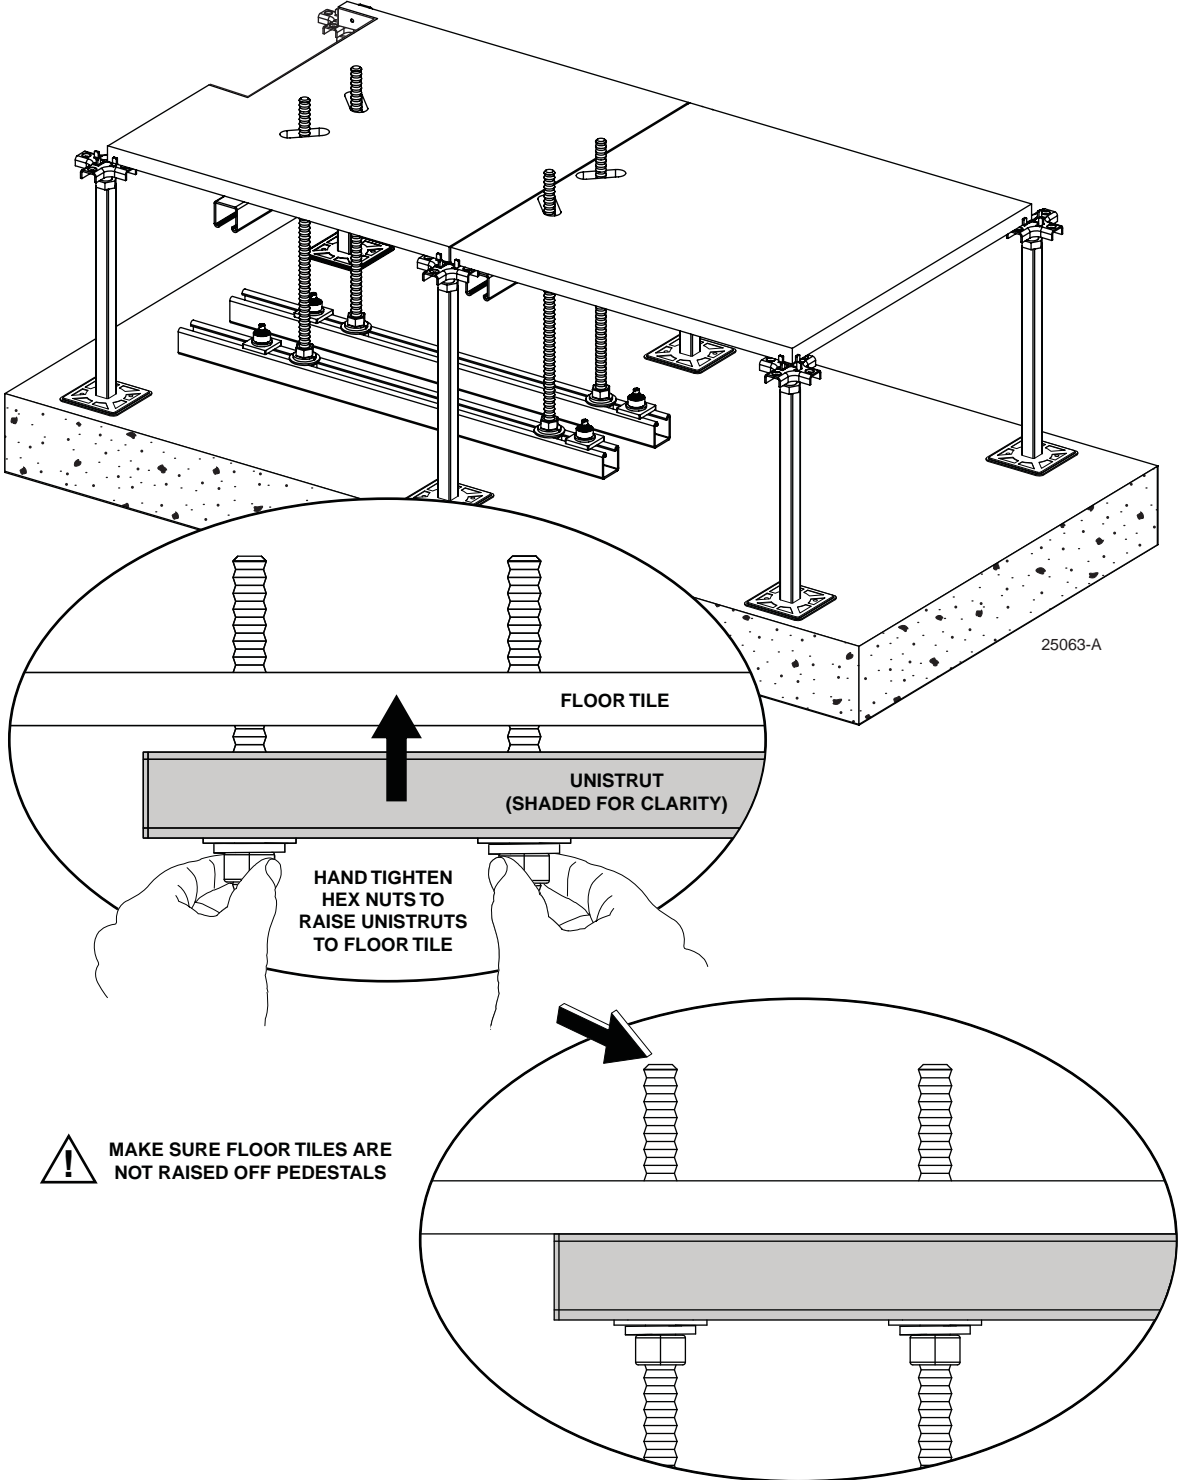

Figure 21. Raising Unistruts to Floor Tile
20. Hand tighten the hex nuts to raise unistruts to floor tile. Refer to Figure 21.